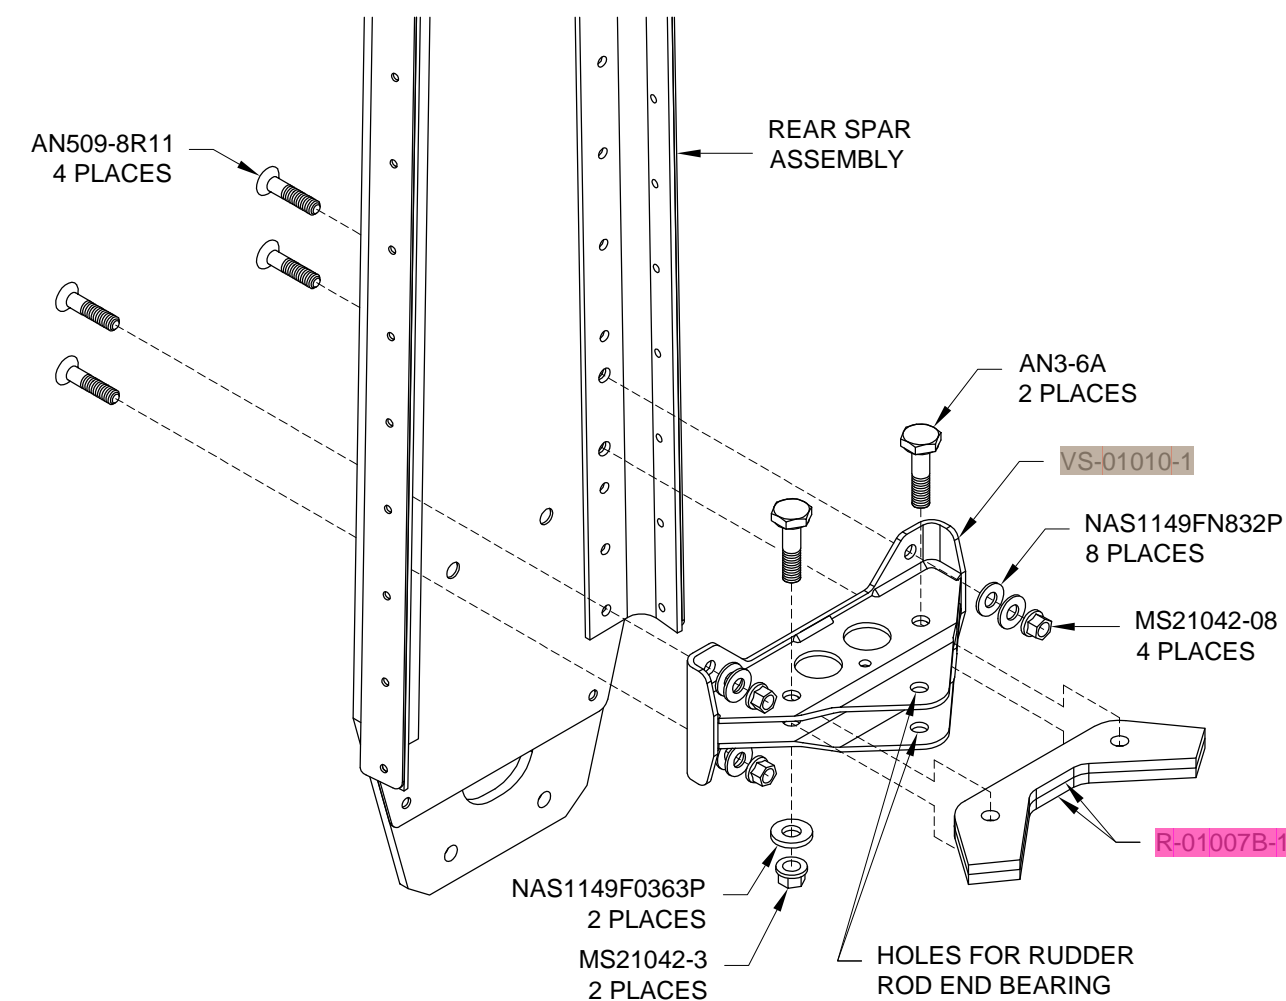

FIGURE 2: ATTACHING THE BOTTOM HINGE BRACKET AND RUDDER STOPS
Step 2: Use a #12 drill bit to clean the powder coating from the three sets of #12 holes in the **VS-01010-1** Bottom Rudder Hinge Bracket. These holes are used to bolt on the **R-01007B-1** Rudder Stops and the bottom rod end bearing of the rudder. See Figure 2.
Step 3: Heavily deburr (and straighten if necessary) the two **R-01007B-1** Rudder Stops, then bolt them in the **VS-01010-1** Bottom Rudder Hinge Bracket as shown in Figure 2.